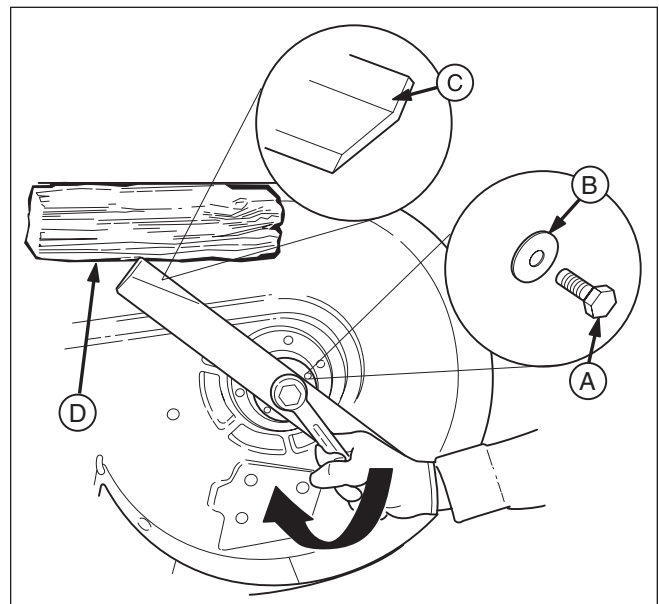

Figure 31. Tightening the Mower Blade for Installation
1. Reinstall each mower blade with the air lifts pointing up towards the mower deck as shown in Figure 31.
48" Models: Secure with the mower blade mounting bolt and flat washer (A & B, Figure 31) and torque to 70 ft. lbs (94 Nm).